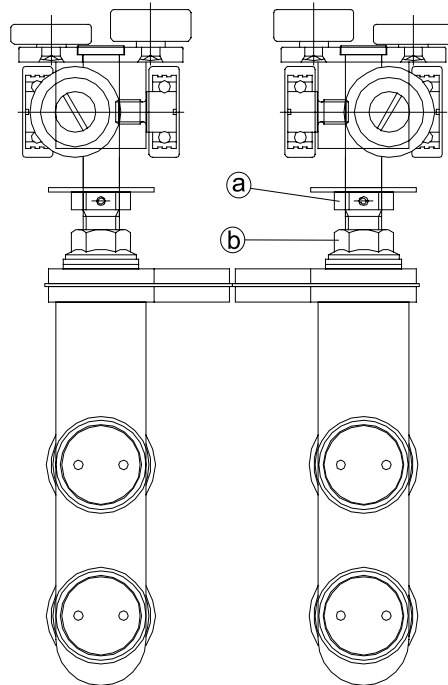

Fig. 7
7. Threading the panels onto the track (Fig. 7):